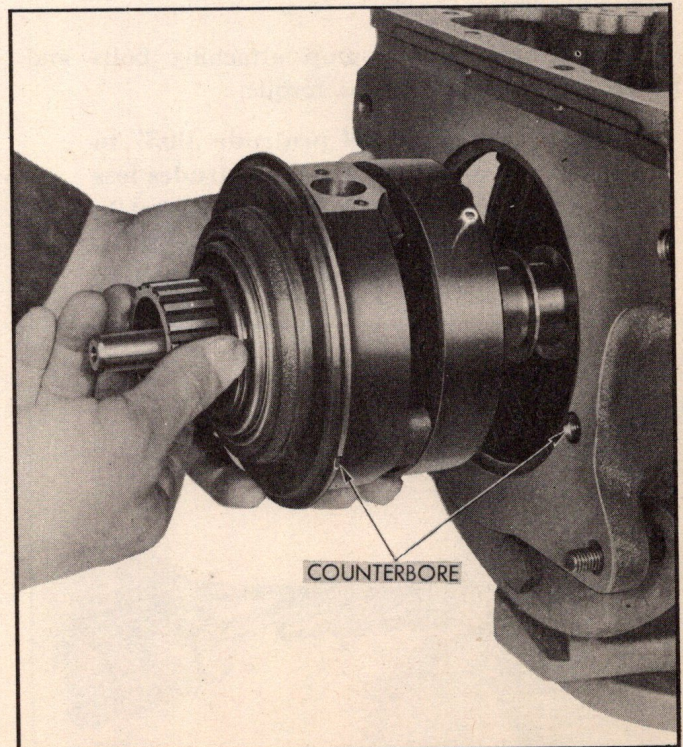

Fig. 295—Installing Front Pump and Front Drive Gear Assembly and Bronze Thrust Washer over Planet Carrier
3. Install front pump and front drive gear assembly over planet carrier. Align locating counterbore in pump cover with counterbore in case (Fig. 295).